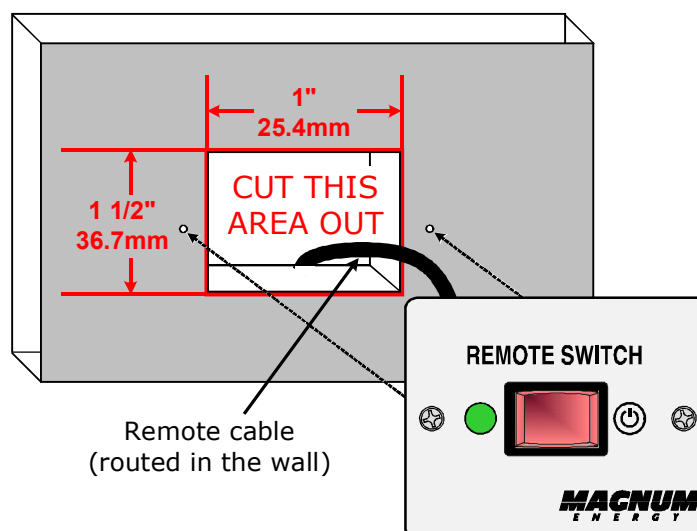

Figure 3, Remote Switch Mounting
1. Cut an opening in a wall – see Figure 3 to determine the correct opening dimensions. DO NOT cut the opening too big. Ensure there are no openings around the display, and that there is enough material for the screws to secure the display. Remove any wall insulation (if applicable) that may contact the back of the remote.